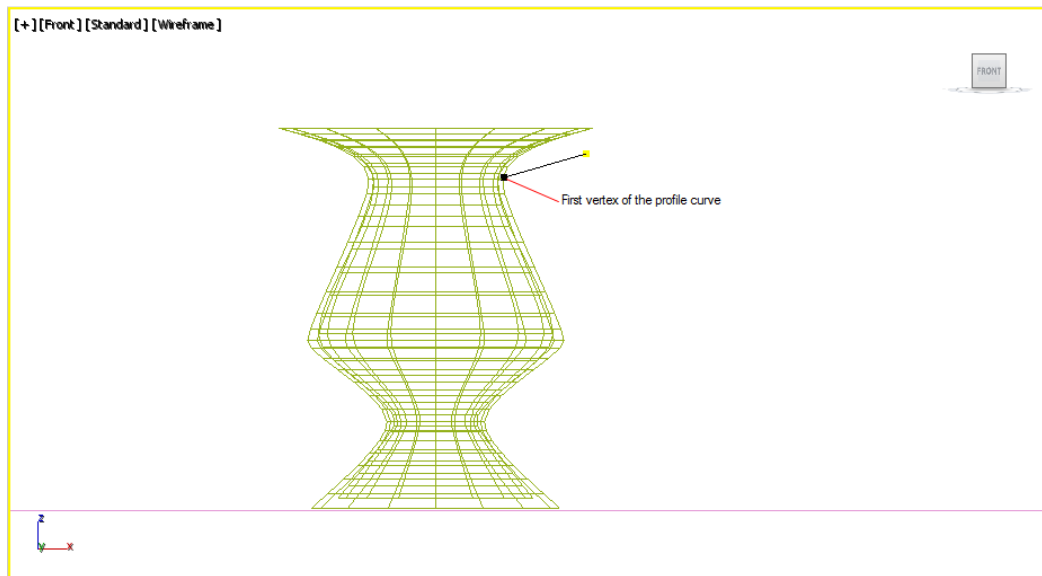

Figure 5-16 The first vertex placed within the profile
3. Click at a point slightly below the neck and make sure the point is placed inside the outer line of *Jug*, as shown in Figure 5-16.